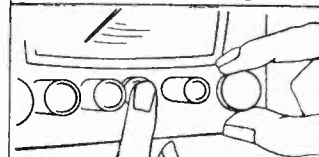

FIG 3 Tune in station with button pressed in firmly.
2. Push the button in as far as it will go and, holding it in firmly, tune in the desired station by means of the selector knob. See Fig. 3.